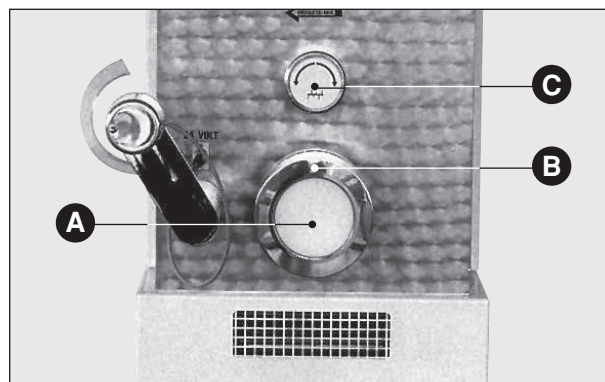

Fig. 3
- then make sure that the plastic cap (**Fig. 3 A**) which replaces the drawplate is correctly positioned and the ring nut (**Fig. 3 B**) is well-screwed on;
- finally block the mixer in its place, thanks to the head-knob (**Fig. 3 C**).